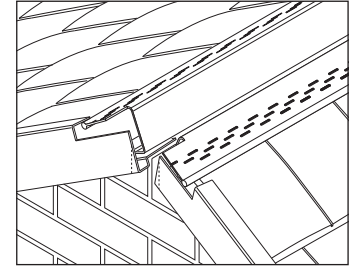

Fig. 9 – Trim units for block end ridge fitting
- 3 When using a bedded ridge and/or block end ridge tile, the verge extrusion will need to be cut away to accommodate the internal rib of the tile and provide a close fit to the outer face of the verge extrusion (Fig. 9).